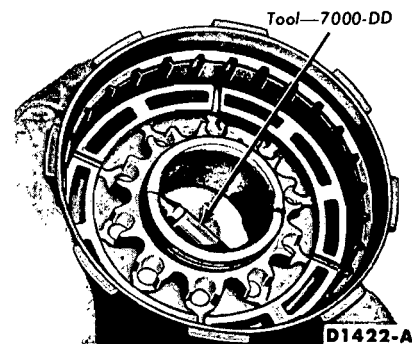

FIG. 55—Removing Reverse-High Clutch Piston
5. Apply air pressure to the piston apply hole in the clutch hub (Fig. 55) and remove the piston.